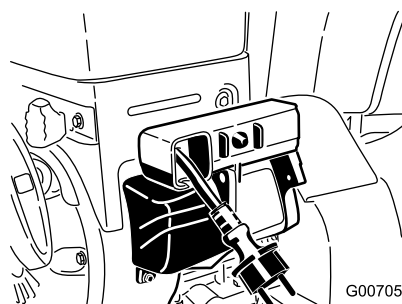

Figure 3
- Install the starter cover by inserting the tab in the slot and securing it at the bottom with a 7 mm hex head bolt from the loose parts bag (Figure 2 and Figure 3).